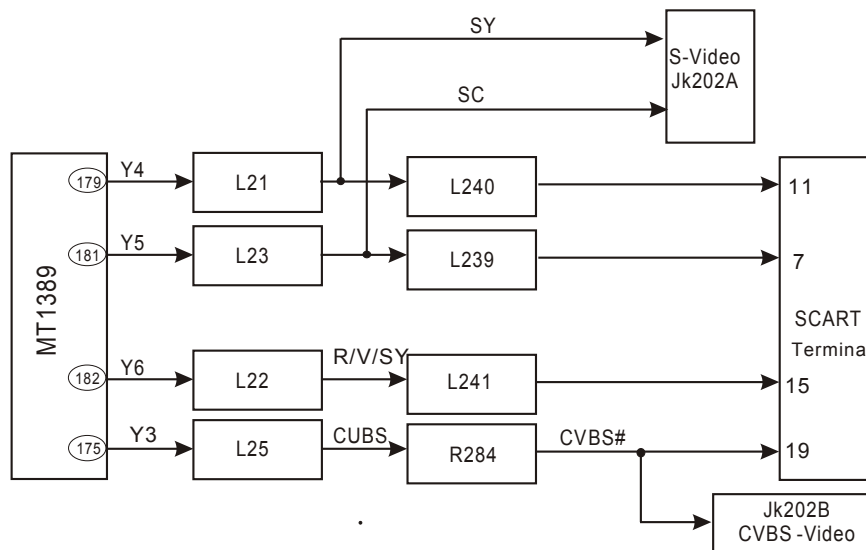

Figure 3.2.9.1 Video signal flow chart
1. Video signal flow chart diagram is shown as in the following figure 3.2.9.1: